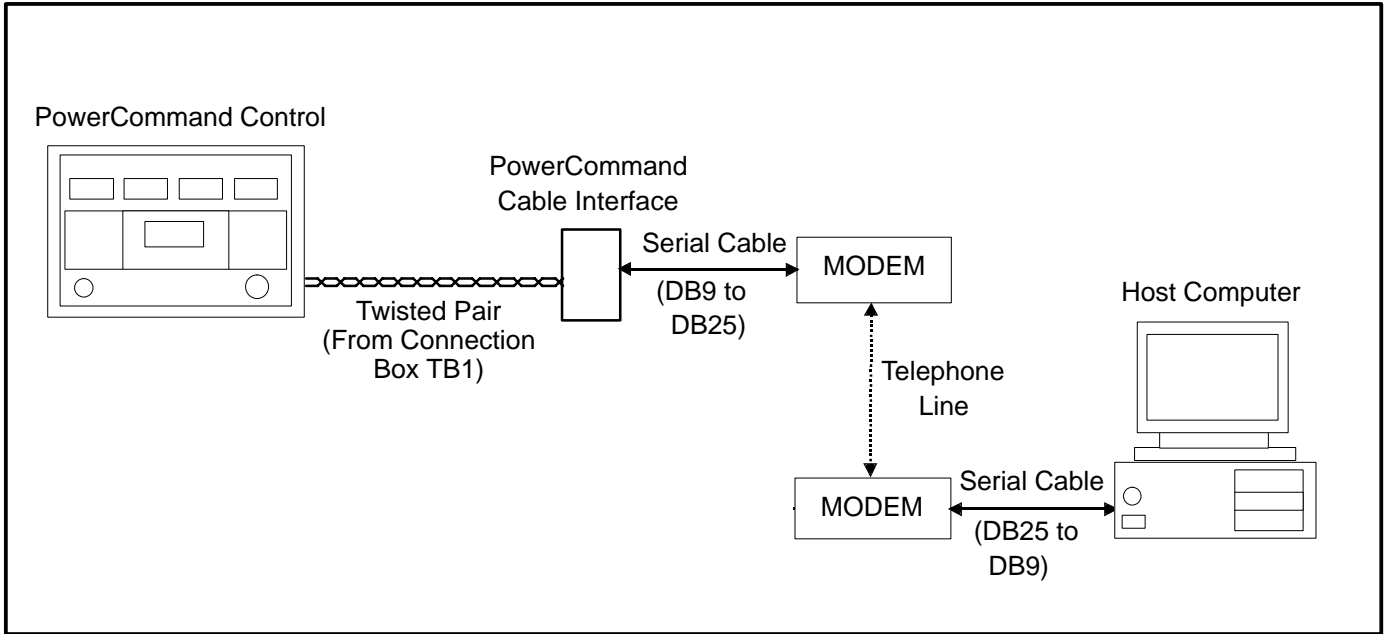

FIGURE 2-2. REMOTE SERIAL COMMUNICATION VIA MODEMS
2. The PCC is remotely connected via modems and the telephone line to the host PC (remotely connected). Figure 2-2.